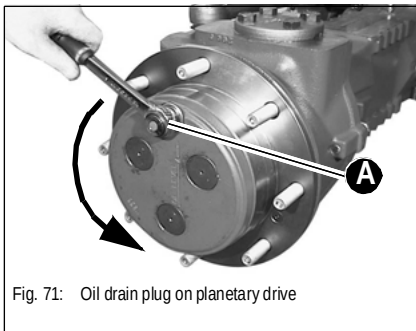

Fig. 71: Oil drain plug on planetary drive
- 3 Place plug **A** in the position shown in fig. 71 (plug must be at the top)